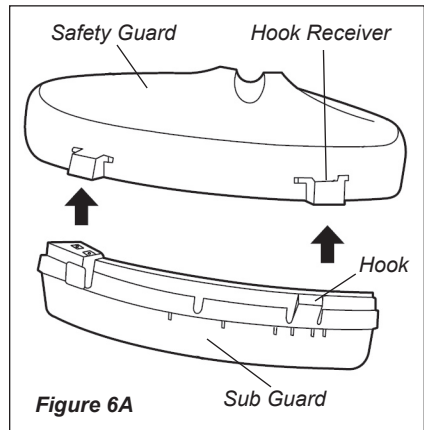

Figure 6A
1. Install the sub guard. See Figure 6A.